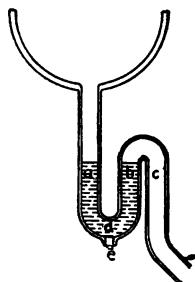

FIG. 339.—S TRAP
Of late years another type of trap known as the *S* trap has come into extensive use. In this (Fig. 339) the large chamber of the drum trap is replaced by a continuation of the pipe that passes downward from the fixture. With the introduction of this form of trap, which is very easily made and quite economical, a trouble known as *siphonage* is encountered.
**350. Siphonage of Traps.** Let Figure 339 represent a sectional view of a trap of the S type, with the water seal *a b*. Suppose a large volume of water enters the side *a* from the fixture. The level in *b* rises and the water flows over into *c*, where it forms a piston and siphonic action starts. As a result, when the flow of water from above *a* ceases, the level in *a* drops down below *d* until air can pass up the side *b* and thus break the siphon flow. In this manner nearly all the water in *a* and *b* is removed, so that there is not enough to seal the lower bend completely. Since *c* is connected with the soil pipe, it is easy to see that if there is any sewer gas in the pipe, it can readily pass up into the house through the fixture.